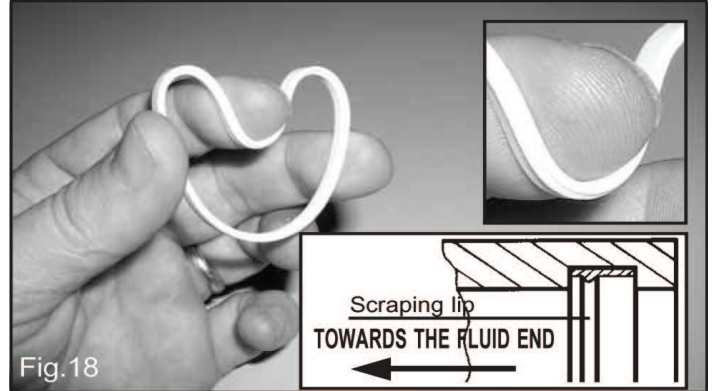

Fig.18
In order to fit the scraper in place, shape it manually as shown in Fig. 18.
**VERY IMPORTANT!** The scraper is provided with an internal lip which performs the correct scraping effect only if oriented towards the fluid end. See window inside Fig. 18.